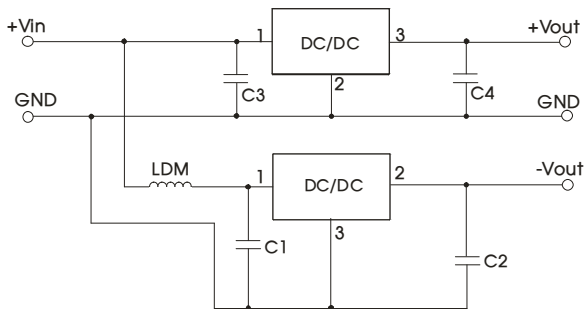

Fig. 3 Positive and Negative output parallelling application circuit
- When the products used as the circuit like figure 3, an inductor named as LDM up to 10μH is recommended in the circuit to reduce the mutual interference.